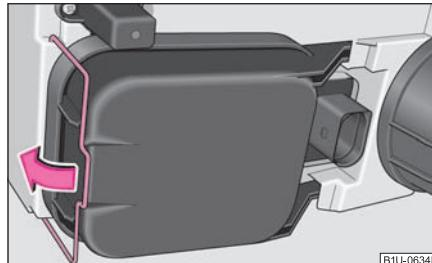

Fig. 174 Removing cover
- Press off the circlip from the cover and fold it in the direction of arrow ⇒ fig. 174.